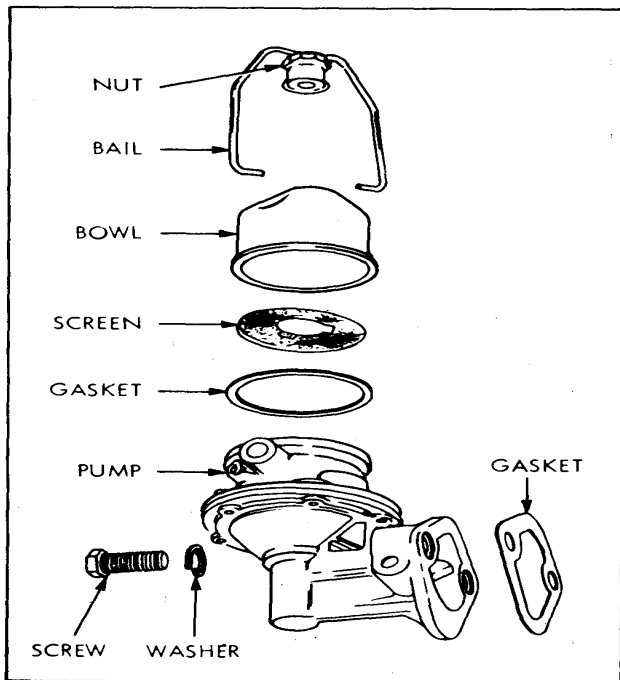

Figure 6-25. Fuel Pump, Exploded View
(1) Shut off fuel supply at tank and disconnect both fuel lines at fuel pump
(2) Remove both screws and washers (Figure 6-25) and remove pump and gasket from engine.